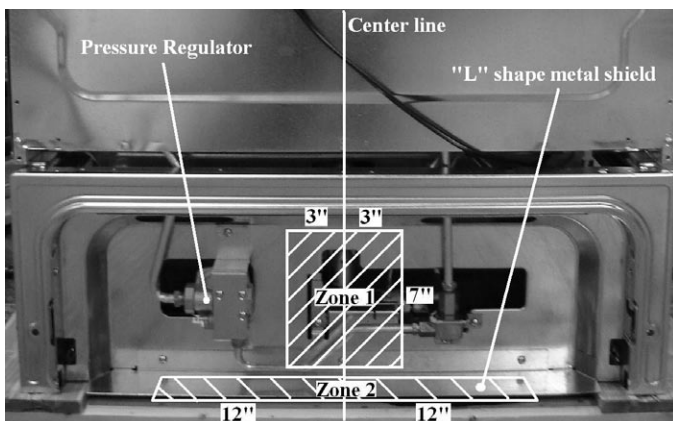

Figure 3
**The gas supply piping can be through the back wall (Fig. 3, zone 1) or through the floor (Fig. 3, zone 2):**